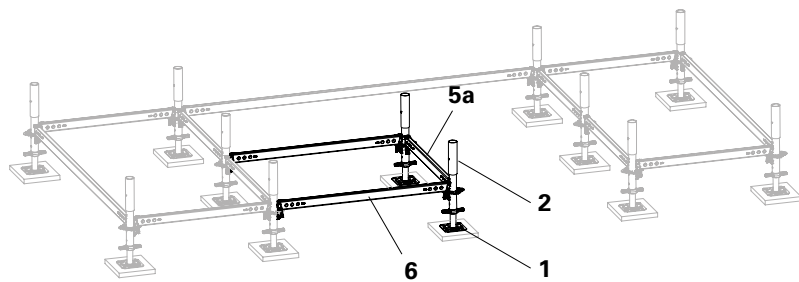

Fig. A8.01
2. Connect the base standards with 2 x Horizontal Ledgers UH-2 125 (**6**) and connect with another Horizontal Ledger UH-2 (**5a**). (Fig. A8.01)